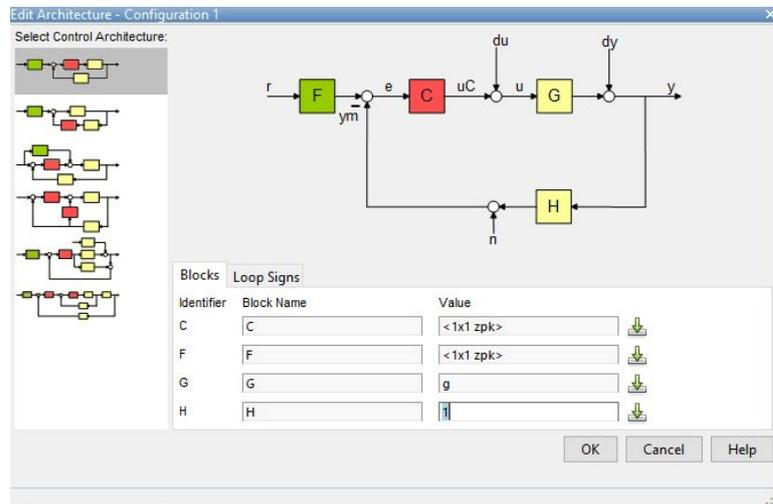

Figure 3.4: Control and Estimation Tools Manager
12. Click the **Edit Architecture** button to add transfer functions to a block diagram. Once the window pops up it should give you a figure that looks like Figure 3.4. It shows the standard feedback control block diagram. For this experiment, there will be no pre-filter, so the F block will be left as 1 or $<1 \times 1 \text{ zpk}>$. The G block is the motor transfer function, and the H block represents the measurements, which will also be 1 for the proportional feedback system we are considering in this exercise. The C block represents the compensator, which will be the gain K for our proportional feedback system.
13. The next step is to enter the motor transfer function into the G block of the *Edit Architecture Tool Manager*. Double-click in the *Value* column of the G row, and enter g , as shown in Figure 3.4. Also, click in the *Value* column of the H row, and enter 1 . Then click *OK*. The root locus diagram should now be visible in one of the windows.